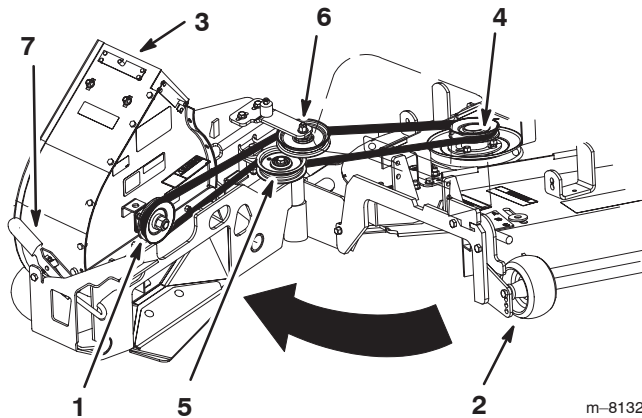

Figure 28
4. If adjustment is needed, open the blower assembly to remove tension from the bagger belt (Fig. 28).
3. Push down on the front latch and open the blower assembly (Fig. 28). This will automatically remove the tension from the blower belt.
5. Remove the bagger belt from the top mower pulley of the mower pulley assembly (Fig. 28).
- 6. Remove the bagger belt from the spring-loaded idler pulley and the fixed idler pulley (Fig. 28).
- 7. Remove the bagger belt from the blower assembly pulley (Fig. 28).